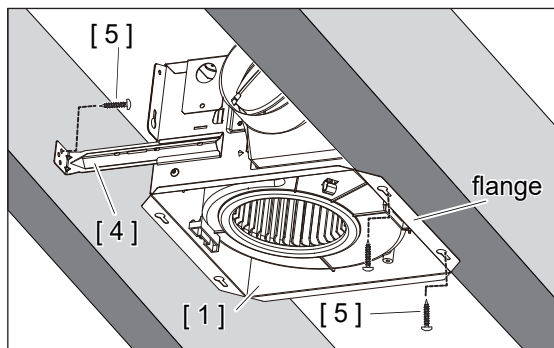

Fig 9
2. Position and hold the Fan Body [ 1 ] to the joist (truss or framing) as figure shows. Make sure the flange of housing is flush to the edge of joist. (Fig 9)
3. Secure the flange with Long Screws [ 5 ] as figure shows. (Fig 9)
4. Secure the Short Bracket [ 4 ] to joist with one Long Screw [ 5 ]. (Fig 9)